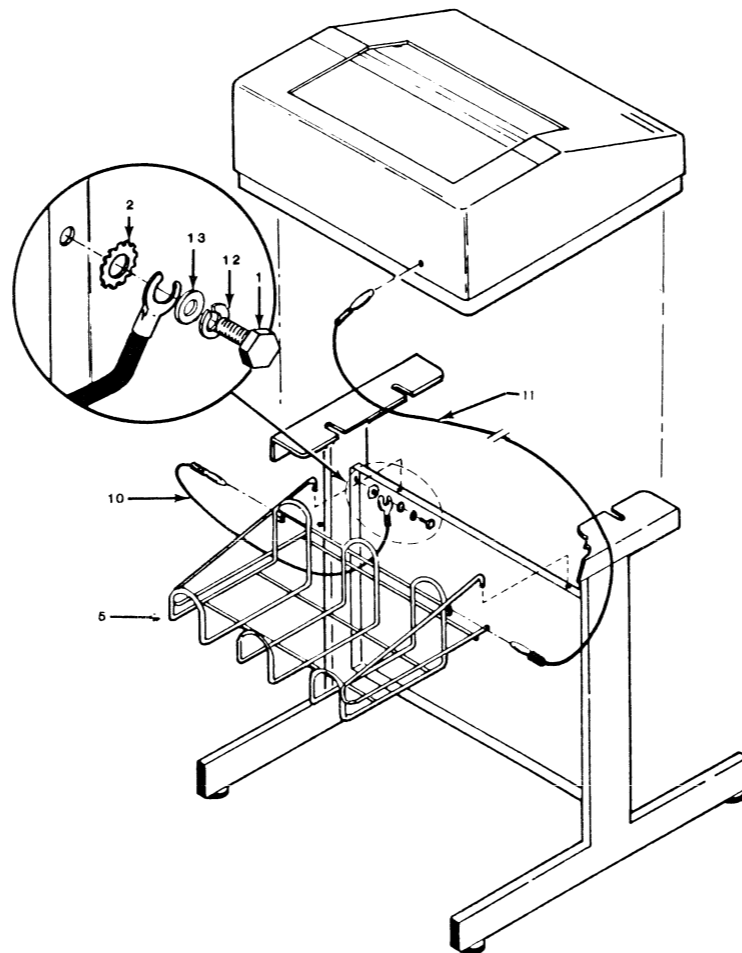

FIGURE 6
Insert the spade connector end of the ground strap (item 10) between the lock washer (item 2), which should be against the inside edge of the central panel, and flat washer (item 13), with split lock washer (item 12), on top, as shown in figure 6, page 3. Then tighten screw completely.
Load basket into proper position, as shown in figure 6.
Attach remaining ground cable (item 11) to back of printer in figure 6. Insert banana plug end of each ground strap into position as shown in same figure.